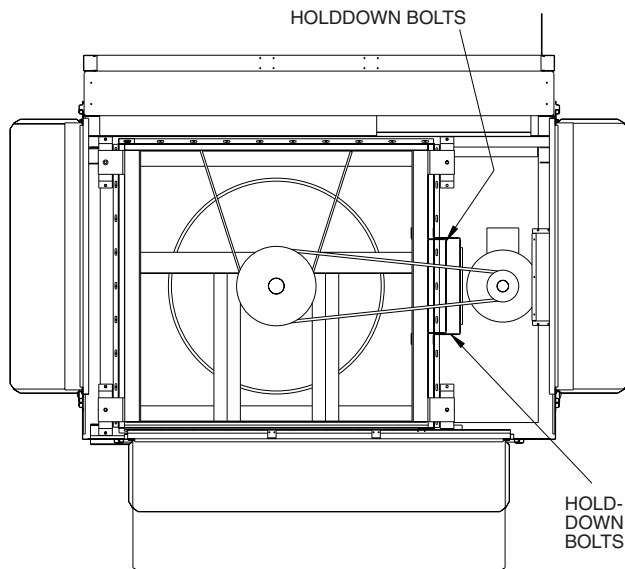

Fig. 43 — Return/Exhaust Fan Motor Plate Adjustment
1. Loosen holddown bolts. (See Fig. 43).